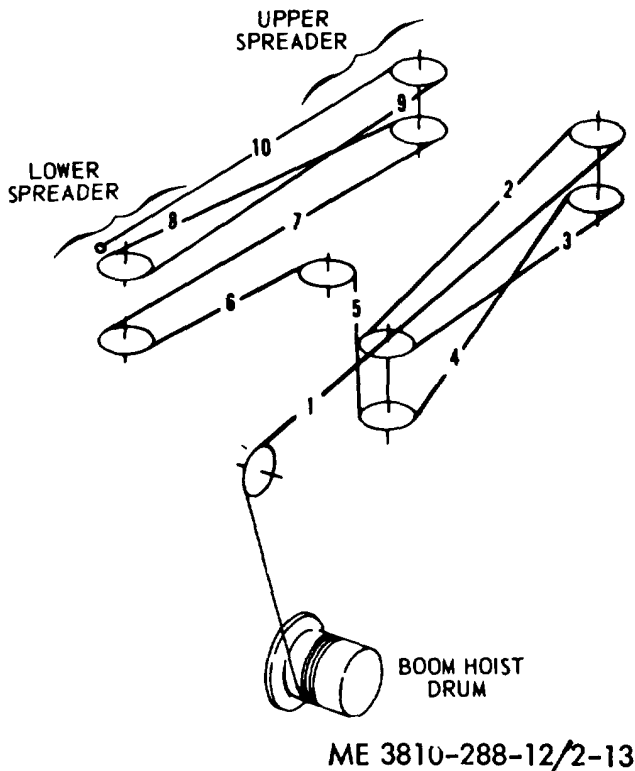

Figure 2-13. Boom hoist line reeving.
- (2) Install the gantry spreader on the gantry A-frame.
- (3) Unroll and stretch the boom suspension cable out on the ground on the right side of the boom.
(4) Reeve one end of the cable from the center upper spreader sheave left side, around the lower left gantry spreader sheave, around the lower left upper spreader sheave, around the upper left gantry spreader sheave, around the upper left upper spreader sheave, around the left gantry peak pin sheave, and to the dead-end socket on the gantry A-frame (fig. 2-13).
(5) Reeve the other end of the cable around the center upper spreader sheave, around the
(3) Lower the boom to rest on the cribbing, and continue to sack off on the boom hoist cable until the upper spreader comes to rest on the boom.
(4) Unspool the boom hoist cable from the drum. Remove the wedge from the cable drum socket, and free the cable.
(5) Disconnect the cable deadend at the gantry and free the cable. Refer to figure 2-13.
(6) Unreeve the boom hoist cable from the gantry spreader and upper spreader sheaves.
(7) Lay the cable out straight on the ground.
(8) Roll the cable into a coil and secure it with wire. Label the cable for future use.